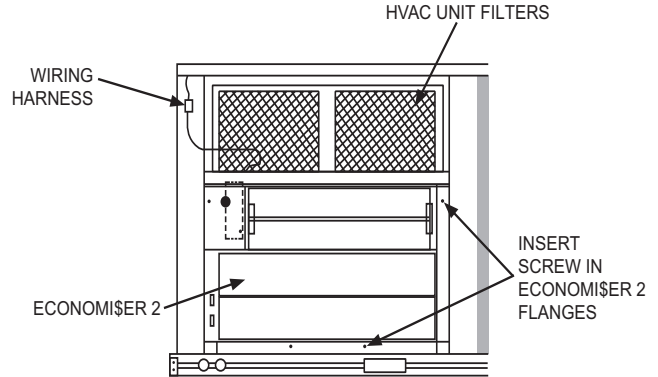

Fig. 6 — EconoMiSer® 2 Installed on HVAC Unit (Small Cabinet Economizer Shown)
7. Slide the EconoMiSer X assembly into the rooftop unit (see Fig. 6). On small and large cabinets be sure to engage the rear EconoMiSer X flange under the tabs in the return-air opening of the unit base (see Fig. 7).